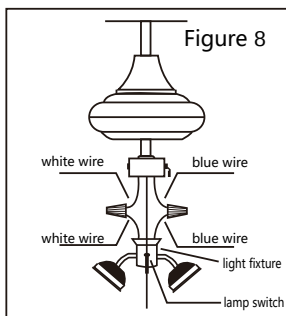

Figure 8
- 1.Connect the white and blue wires of the light fixture to the white and blue wires of the switch accordingly,tighthen the wires with a wiring cap,then lock the shade(See Figure 8).